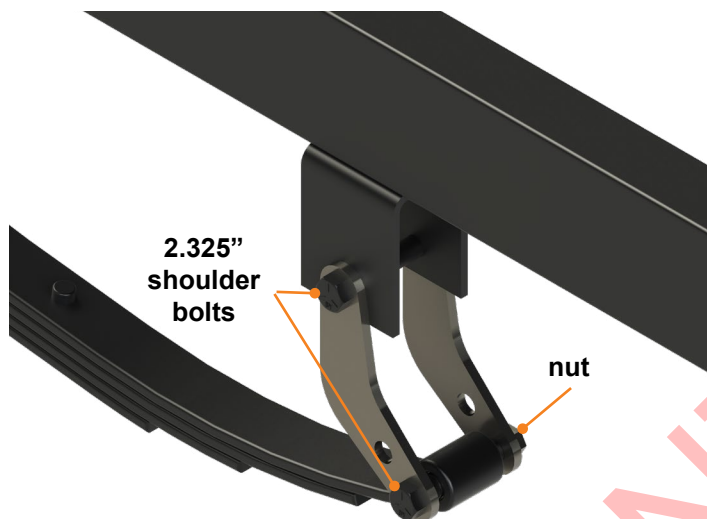

Fig.6
7. Insert two $\frac{9}{16}$ " x 2.325" shoulder bolts (bolt length 2.875") through the new shackle, the eye of the spring and through the remaining shackle (**Fig. 6**).